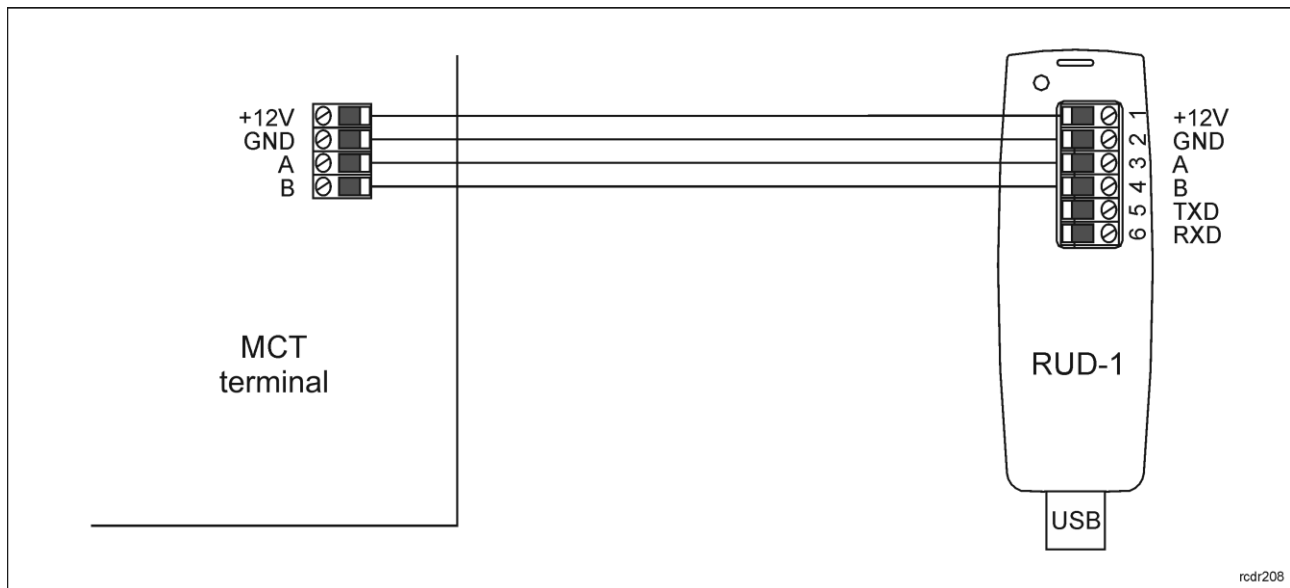

Fig. 8 Connection to RUD-1 interface.
1. Connect the device to RUD-1 interface (fig. 8) and connect the RUD-1 to computer's USB port.